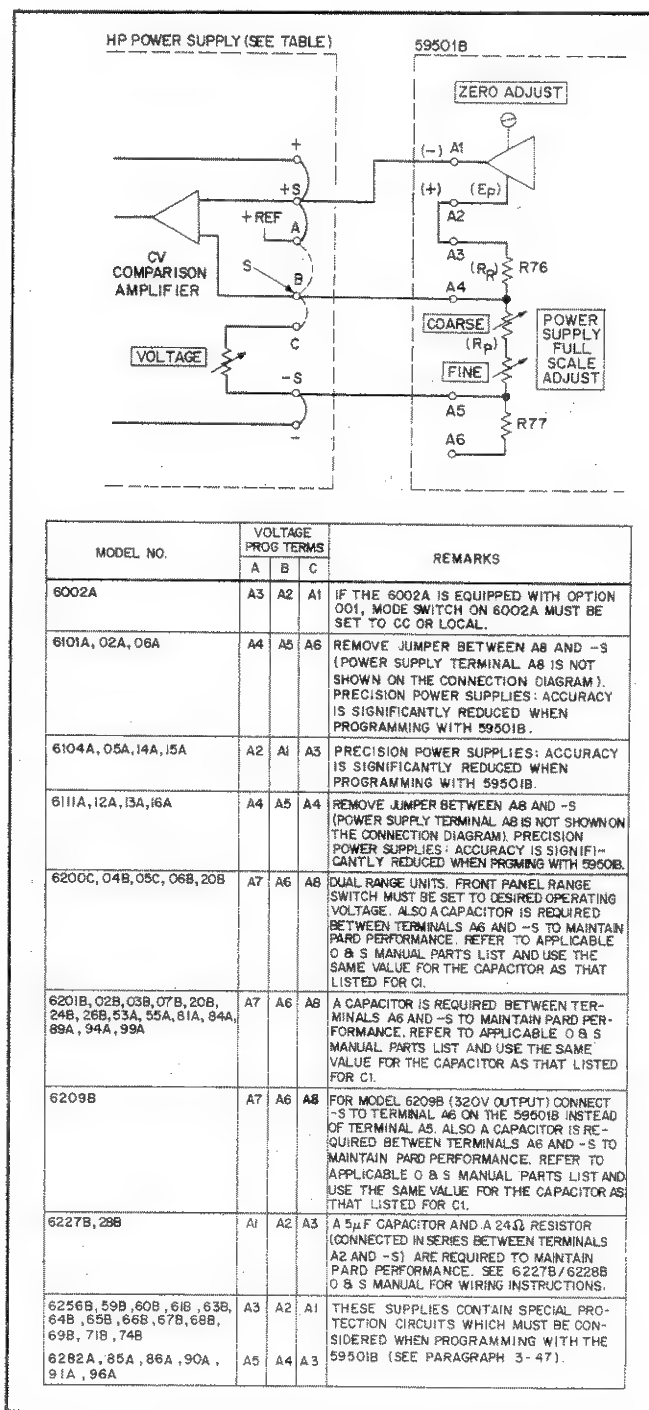

Figure 3-7. CV Programming Connections for HP Power Supplies with +S Common
**3-46 CV Programming Connections.** Figures 3-7 through 3-13 illustrate the connections required to program the CV output of the applicable power supplies. The dotted line connections represent jumpers which must be removed. All other jumpers must be installed as illustrated. Note that only those power supply terminals pertinent to CV programming are shown. Complete terminal strip details are provided in the appropriate power supply Operating and Service Manual. Most of the supplies are programmed using the connections illustrated in Figure 3-7. The specific connections for each supply are tabulated on the diagram.
**3-47 Special Protection Circuit.** As indicated on Figure 3-7, some of the supplies contain a special protection circuit which must be considered when programming with the 59501A. The supplies affected are models 6256B through 6274B, 6282A, 6285A, 6286A, 6290A, 6291A, and 6296A. Down programming the output voltage of these supplies may activate the special protection circuit. When this occurs, the power supply's load cannot draw more than 10% (approx.) of rated output current until the protection circuit resets. If it is desired to program the output voltage down to a lower value without the need to draw full output current, the reset time is not important. The reset time can take from 500msec to 6 seconds depending upon the particular model, the load, and the starting and the ending voltage values. For example, the actual output voltage of a 6264B supply takes only 80msec for its output to go from 20 volts down to .1% (20 millivolts), but it will be about 800 milliseconds before the circuit resets allowing the full output current to be supplied to the load. Additional information concerning this protection circuit is provided in HP-IB/Power Supply Guide, HP Part No. 5952-3990.